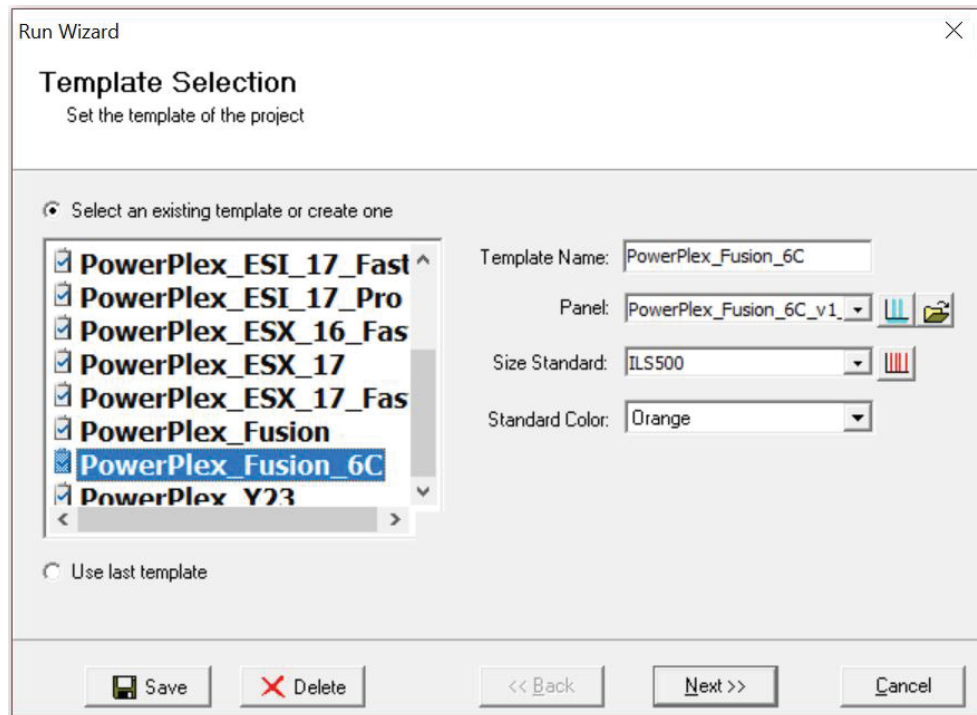

Figure 24. The 'Template Selection' window.
- Click on **Run** in the Magic Wizard or click the **Run Project** icon (green arrow) in the toolbar. The 'Template Selection' screen will appear (Figure 24). Select the PowerPlex_Fusion_6C template and the settings shown in Figure 24. Verify the panel that you created in Step 6 is selected in the panel drop-down field. The 'Size Standard' must be ILS500 and the 'Standard Color' must be Orange. Select **Next**.